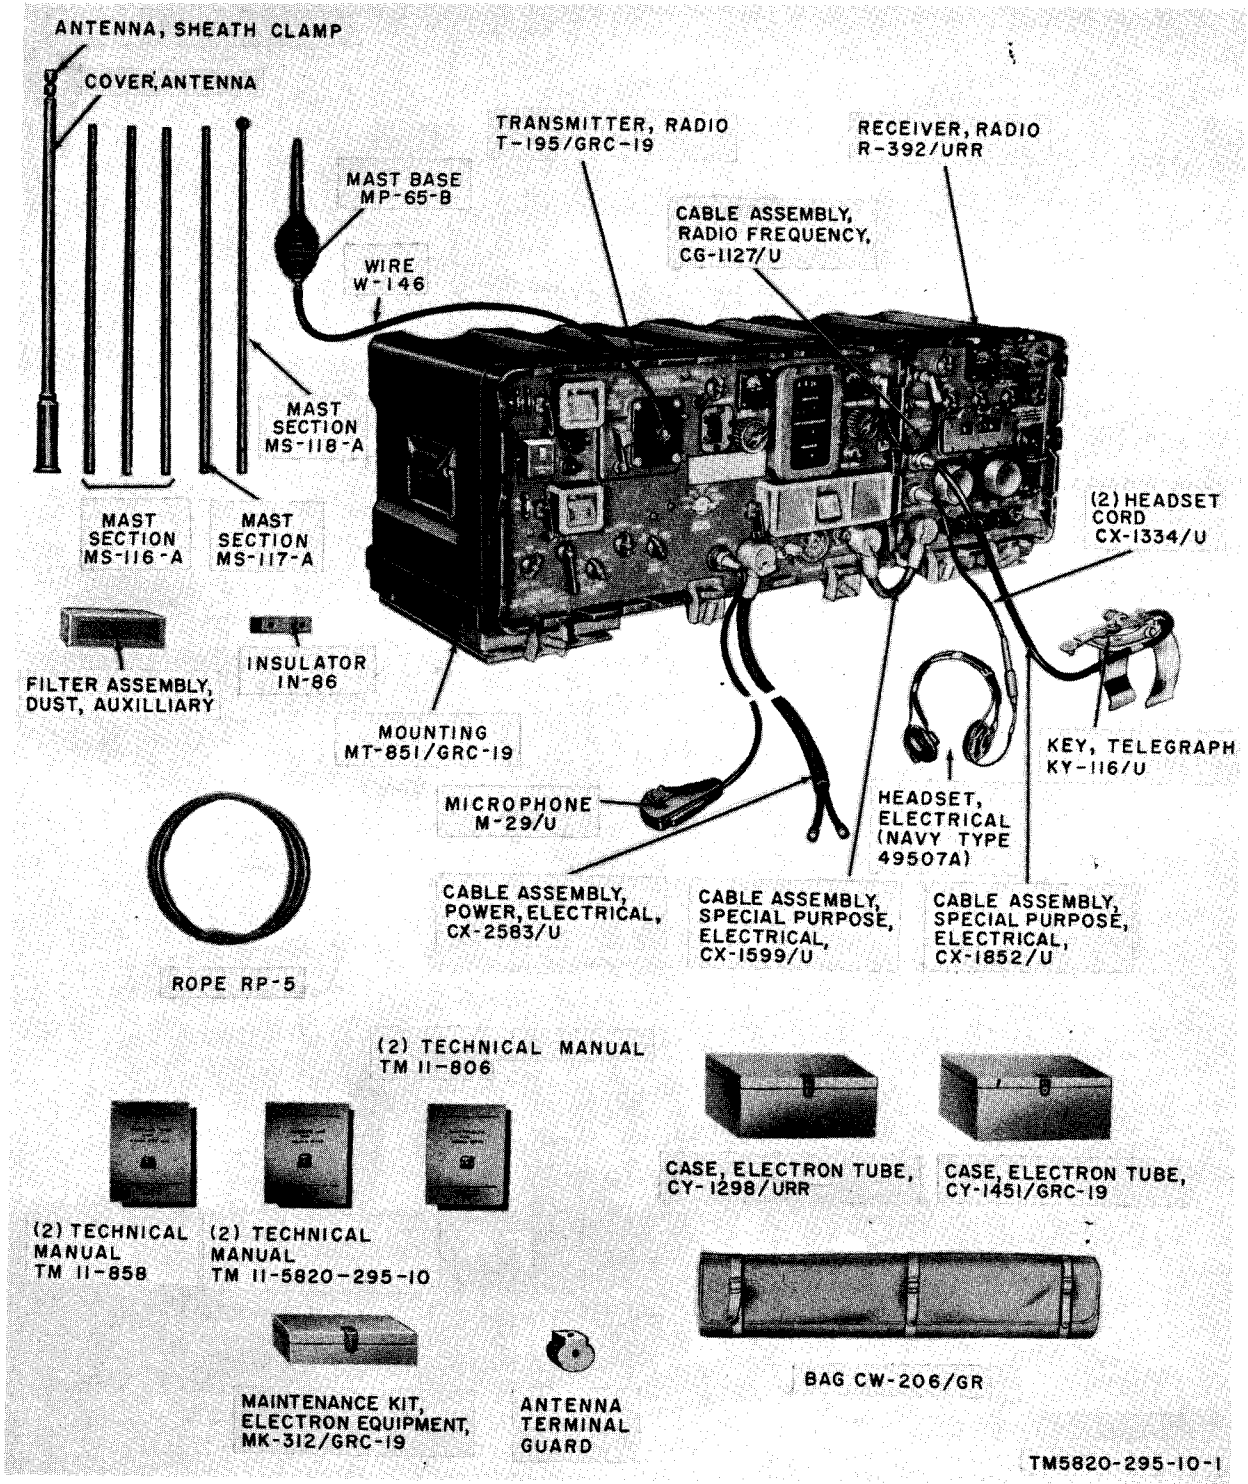

Figure 1. Radio Set AN/GRC-19.
a. This manual describes Radio Set AN/GRC-19 (fig. 1) and covers its installation, operation, and operator's maintenance. It includes operation under usual conditions, and cleaning and inspection of the equipment.
a. Components (fig. 1).